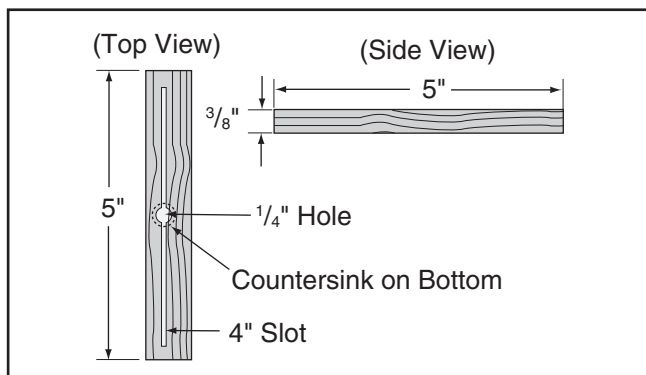

Figure 73. Miter bar pattern.
5. Cut a miter bar that will fit in the table miter slot approximately 5" long, as shown in **Figure 73**.